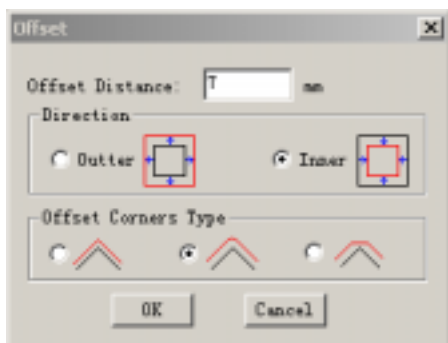
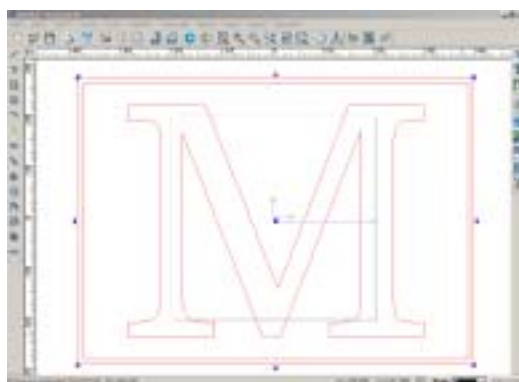

Fig. 12-15
Fig. 12-16
8. Select the rectangular frame, and click on the shortcut icon  in Modification Bar or click Modify->Offset command in the menu bar. Then a dialog is shown (Fig. 12-15). Set the Offset distance at 7, choose inner direction, and the result is shown in Fig. 12-16.